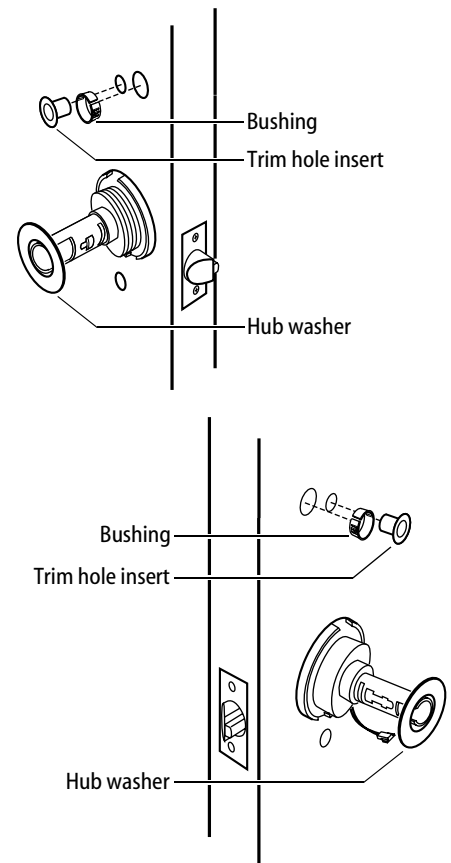

Figure 9
- 1 Insert the two trim hole inserts into the upper trim hole on each side of the door (see Figure 9).
- 2 Insert the two bushings into the wire hole on each side of the door (see Figure 9).